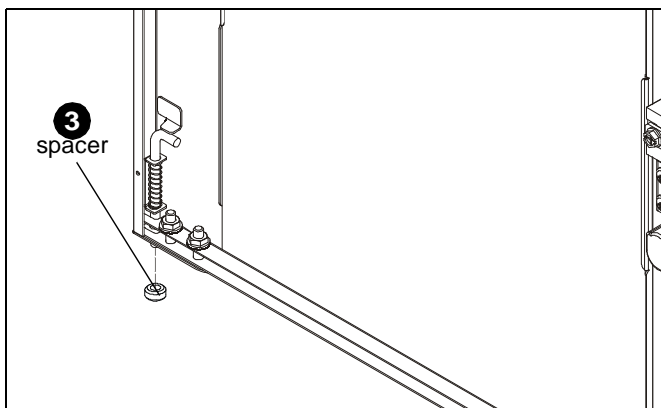

Figure 26
3. Remove spacer from bottom door pin. (See Figure 26)